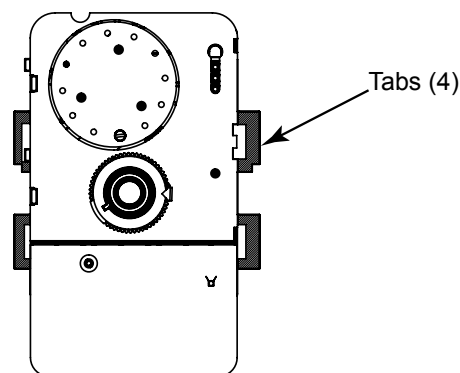

Figure 2. Snapping tabs off mechanism.
5. If necessary, snap the tabs off the G8000 Defrost Timer with your fingers or pliers. See Figure 2.